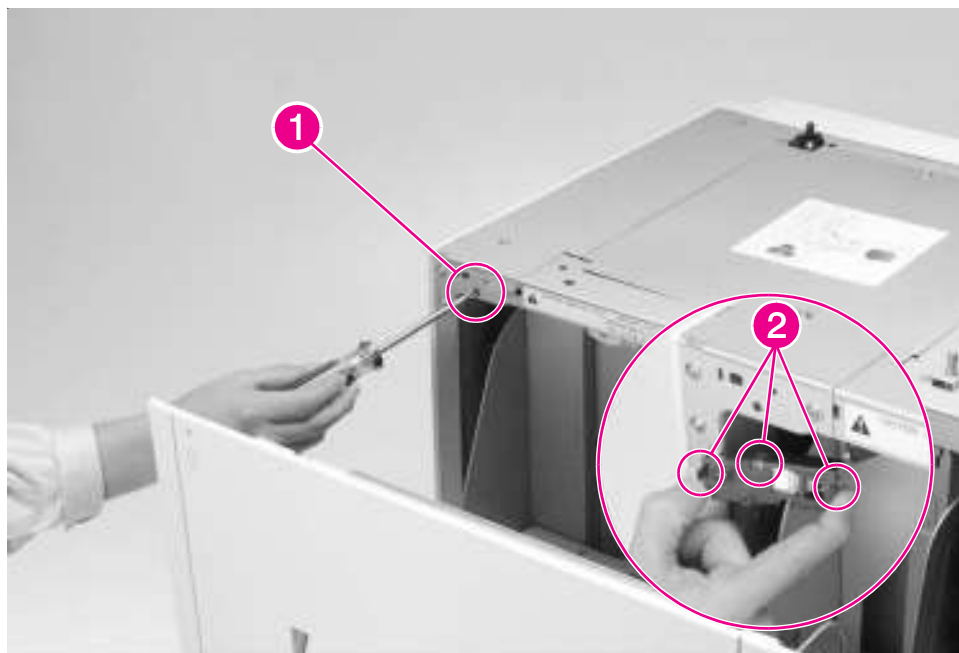

Figure 6-70 2000-sheet Input Tray Front LED PCA
- 2 On the upper-left corner of the front of the unit's chassis, locate and remove the 1 screw that secures the LED PCA Assembly to the chassis (figure 6-70, callout 1).
- 4 To remove the LED PCA from the cable connector, release the 3 plastic retaining tabs that secure the LED PCA to the connector (figure 6-70, callout 2).